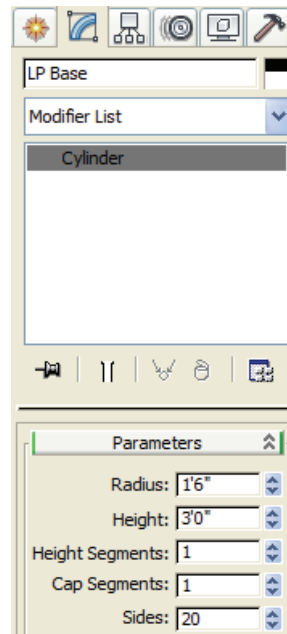

Figure 3–2
7. In the Parameters rollout, set *Radius* to **1'6"**. You can also set the number of segments and sides for the object. Try changing these values to see what effect they have on the geometry. Set both *Height Segments* and *Cap Segments* to **1** (default) and *Sides* to **20**, as shown Figure 3–2.
8. Select the *Create* tab () and in the Object Type rollout, click **Box** to create the anchor base plate. In the Keyboard Entry rollout set X, Y, Z coordinates to **0'0"**, **0'0"**, **3'0"**. Set the *Length* and *Width* to **1'4"** and the *Height* to **0'2"**. Click **Create**. A box is created on top of the Base cylinder, as shown in Figure 3–3.